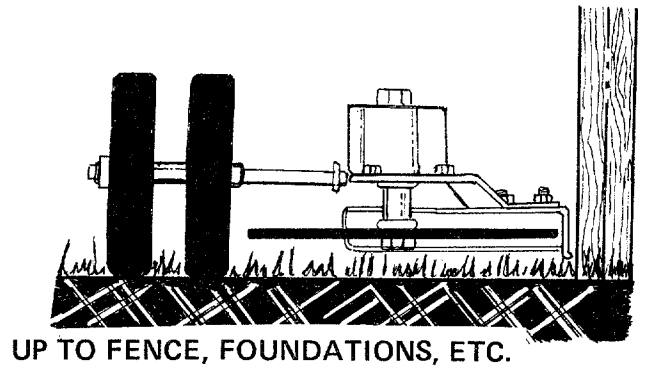

FIGURE 19
4. To operate the unit as a trimmer, move the adjustment lever and rotate the cutting blade 90°. See figure 19. Move the front wheels all the way to the right, as described in the Control section.